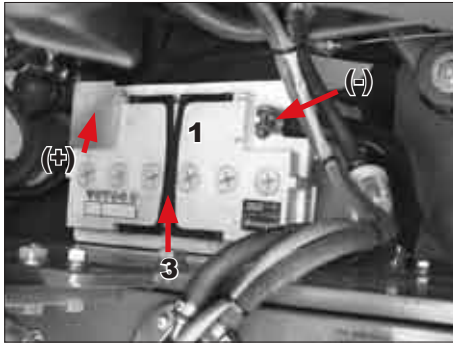

Fig. 103
The battery has a nominal voltage of 12 volts; the battery capacity is 77 Ah. The battery is located on the left side of the loader in the engine compartment Item 1 (Fig. 103). To access it, open the engine enclosure.
6. Loosen the negative battery cable clamp and remove the clamp from the post. Position the cable so it is not touching the machine. Wrap an insulating material around the conducting part of the cable clamp to eliminate the risk of electrical shock (Fig. 103).
7. Remove the protective cover to gain access to the cable clamp bolt. Loosen the positive battery cable clamp and remove the clamp from the post. Position the cable so it is not touching the machine. Wrap an insulating material around the conducting part of the cable clamp to eliminate the risk of electrical shock (Fig. 103).
9. Remove the battery with the lifting aid incorporated in the battery identified as item 3, Fig 103. If the battery does not have an integral lifting aid, use a special strap that fits over each pole and provides a means to remove the battery.